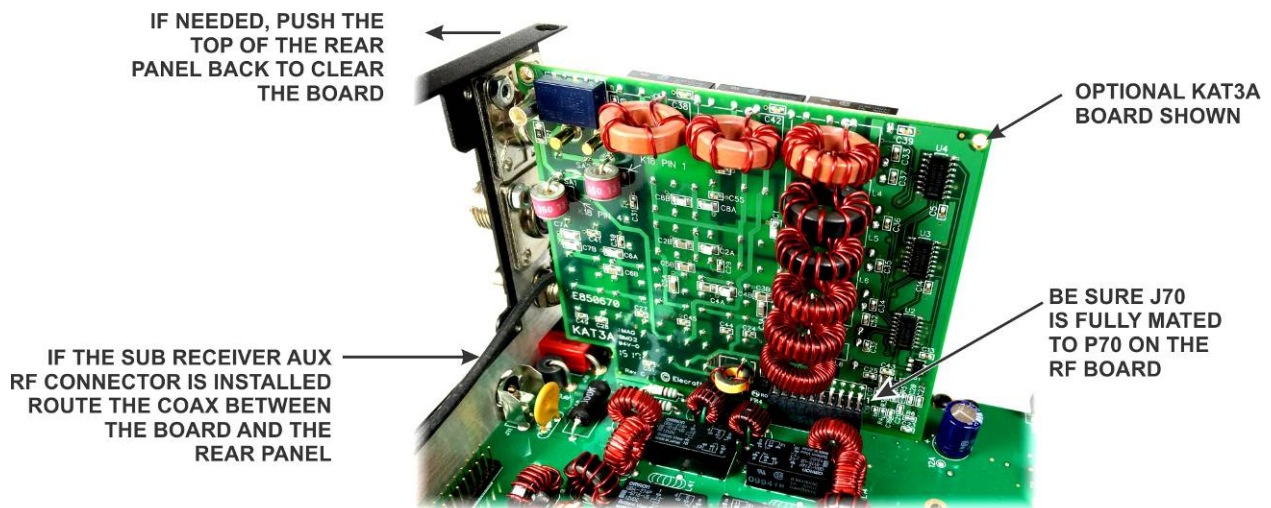
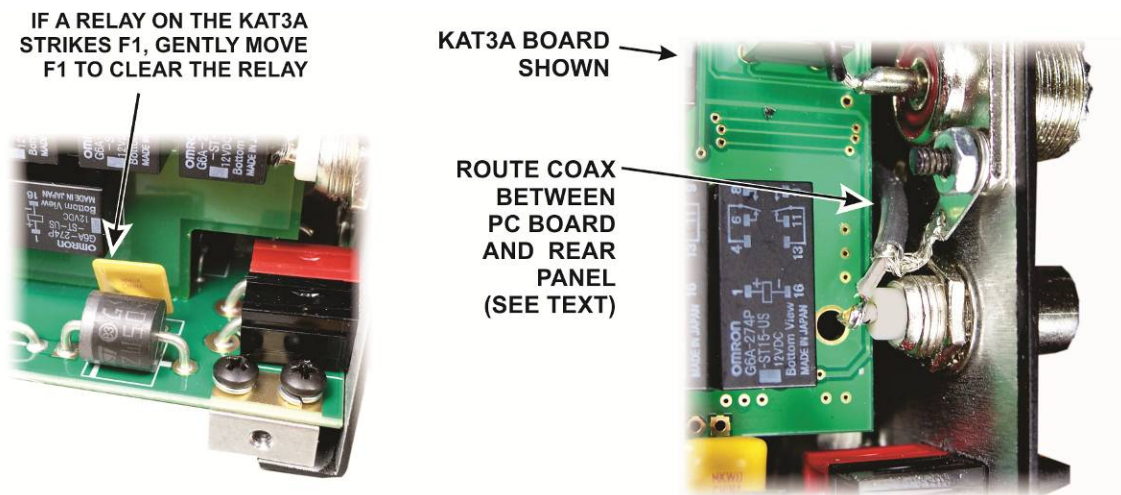

Figure 68. Installing the KANT3 or KAT3A Board.
Figure 69. Adjusting F1 and Routing AUX Coax.
□ Insert J70 on the KANT3 or the KAT3A board into P70 near the red and black APP power connectors at the right rear corner of the RF board. The KANT3 board is shown in Figure 68. The KANT3 board fits exactly the same way *with the toroidal inductors toward the center of the RF board*. When installing a KAT3A antenna tuner, a relay on the KAT3A may strike resettable fuse F1 on the RF board. If so, gently bend the fuse to clear as shown in Figure 69. If the sub receiver AUX antenna connector is installed, route the coax between the board and the rear panel as shown.
Locate voltage regulators U12 and U13. They are mounted on the RF board and have tabs screwed to the right side panel (see Figure 68 on page 50).